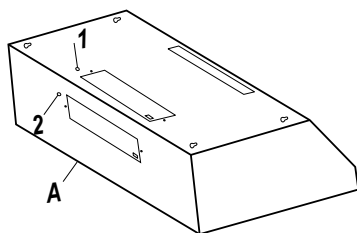

Fig.10
- Choose the appropriate electrical knock-out hole to remove for your installation type. Use the top hole (1) if your electrical supply is in the cabinet and the back hole (2) if your electrical supply is on the wall below the cabinet (refer to Fig. 10).